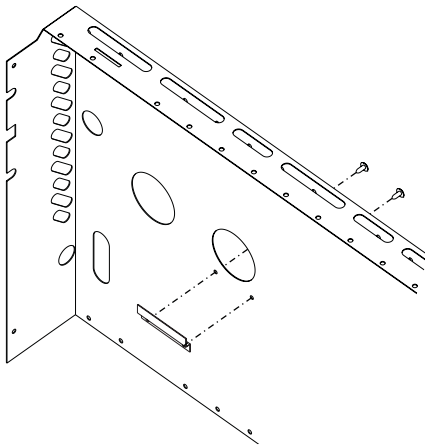

Figure 1
1. Attach the pipe stop bracket to the rear shroud with the two 8 x 3/8" phillips pan head screws. **See Figure 1.**